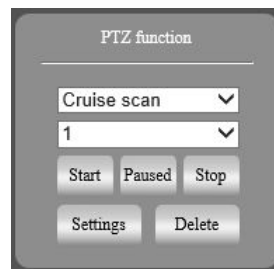

Figure 4-7 Cruise scan
Step 1, Click the PTZ tab and select Cruise scan from the drop-down list, as shown in Figure 4-7.